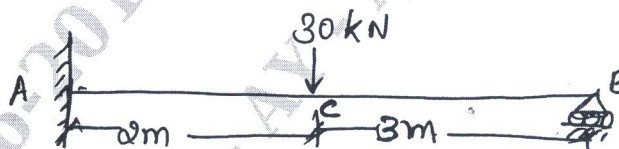

Fig Q7(a)
- 7 a. Determine reaction components in the propped cantilever beam as shown in Fig Q7(a). EI is constant throughout.